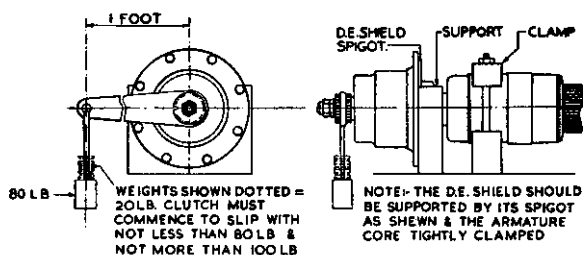

Fig. 13—Clutch adjustment for Axial Type Starters.
- (b) Individual new parts of clutch must not be put in unless facilities exist for testing the slipping torque of the clutch, as shown in Fig. 13. When no such facilities exist and parts of the clutch want replacing, then a complete new clutch interior should be purchased from C.A.V. Ltd., already tested, or if desired, the armature can be returned complete with pinion for the new parts to be fitted. Care should be taken to insert the clutch plates alternatively bronze and steel. Commence by inserting a bronze plate into the housing in order that the last one will be steel to take the pressure of the small springs.
Where facilities exist, the clutch should be tested for slipping torque (or overloading point) and this should be between 80 and 100 lb. ft. If it is found to be below these figures, the clutch should be examined for wear, and worn parts replaced. See Fig. 13.